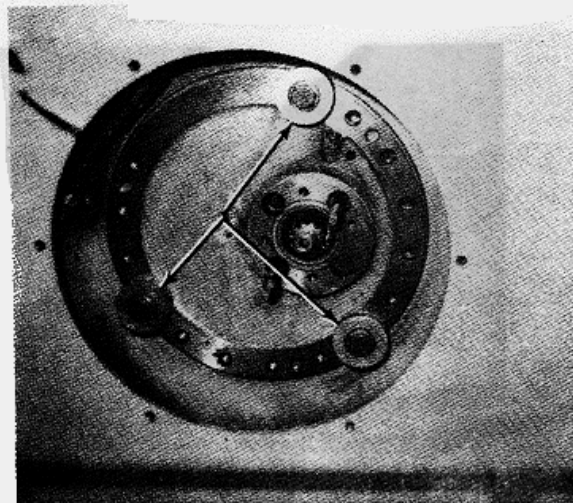

FIGURE 7-96.
h. Insert three equally spaced capscrews. Torque these capscrews to 15 ft.-lbs. (2.074 kg-m) and then remove them (see figure 7-96).